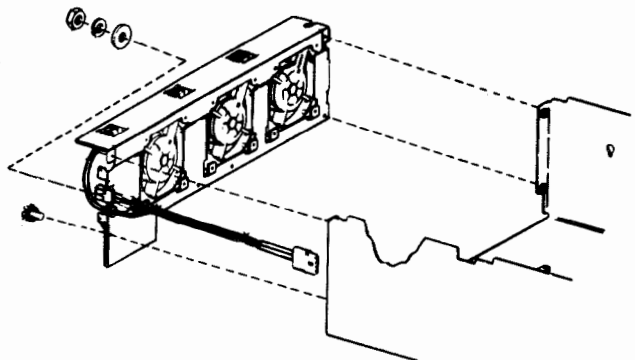

Fig. 45
Step 4 — Remove 408050 ventilation assembly by removing three screws, nut, lockwasher and flat washer (Fig. 45).